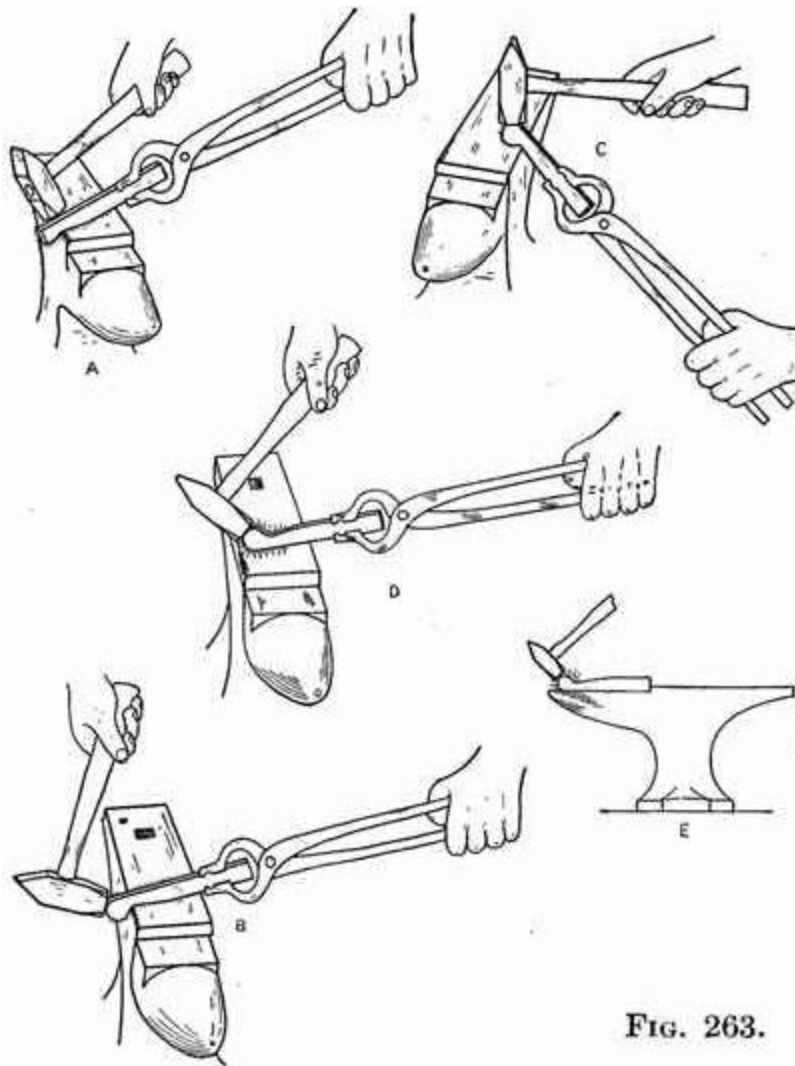

FIG. 263.
After upsetting, the end is shaped and the corners are rounded before punching. This can best be done by forming a neck or shoulder just back of the eye by hammering over the far edge of the anvil, as shown in Fig. 263A. The end is then further shaped and the corners rounded by working over the anvil as suggested in the various other views of Fig. 263. Having the end thus shaped, the hole may be punched in the usual fashion.
Fig. 263.-Forming a shoulder or neck, preparatory to punching a hole for an eye. The iron is first driven down against a corner of the anvil, as shown at (A). The end of the piece is then shaped and rounded by working over the corners and the horn of the anvil, as suggested in the various other views.